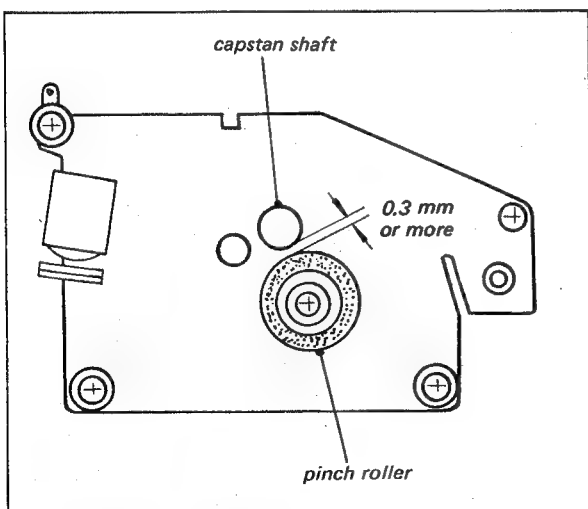

Fig. 4-31. Capstan deck adjustment
2. Set the function lever to PAUSE. Make sure that the clearance between the capstan shaft and the pinch roller is more than 0.3 mm. If necessary, recheck Step 1. See Fig. 4-31.